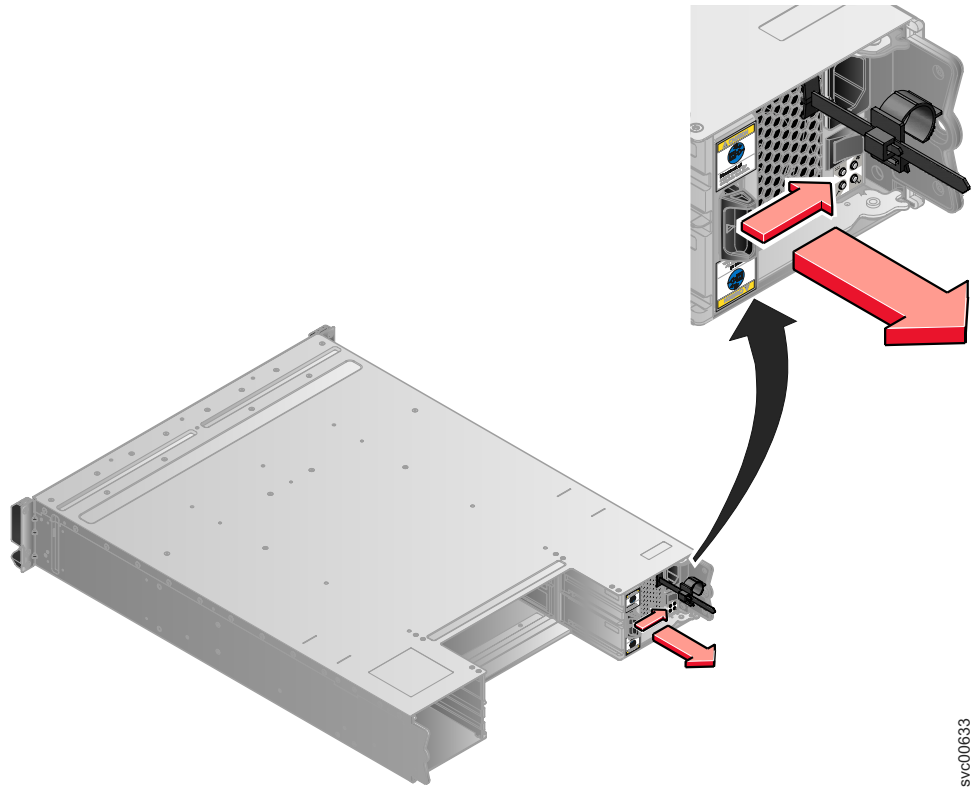

Figure 29. Directions for lifting the handle on the power supply unit
- a. Depress the black locking catch from the side with the colored sticker as shown in Figure 29 on page 93.